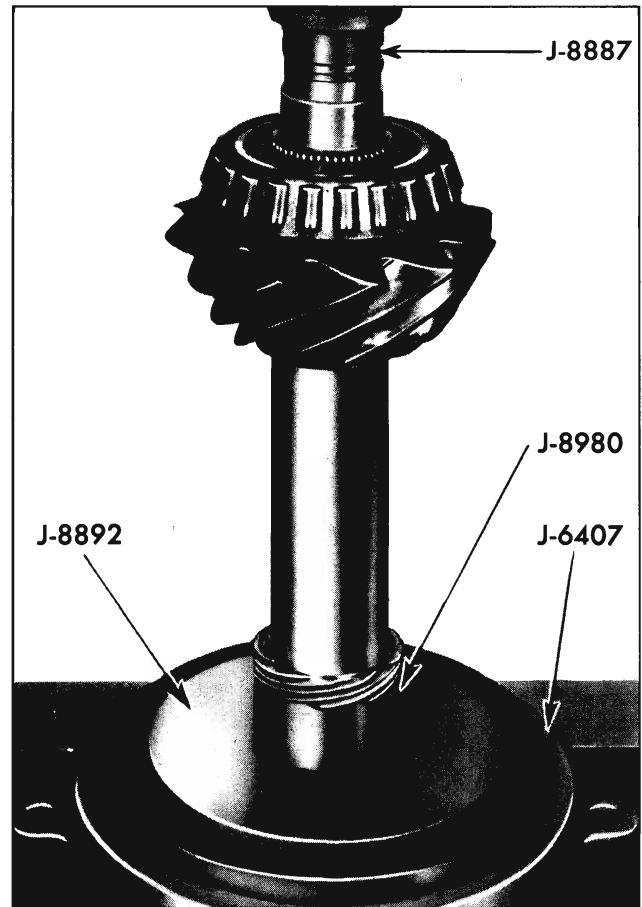

Fig. 4-43 Installing Speedometer Drive Gear
2. Press on speedometer drive gear using J-8980 spacer with J-8892 in J-6407 holder. Use J-8887 installed on end of pinion shaft (Fig. 4-43) on automatic only.